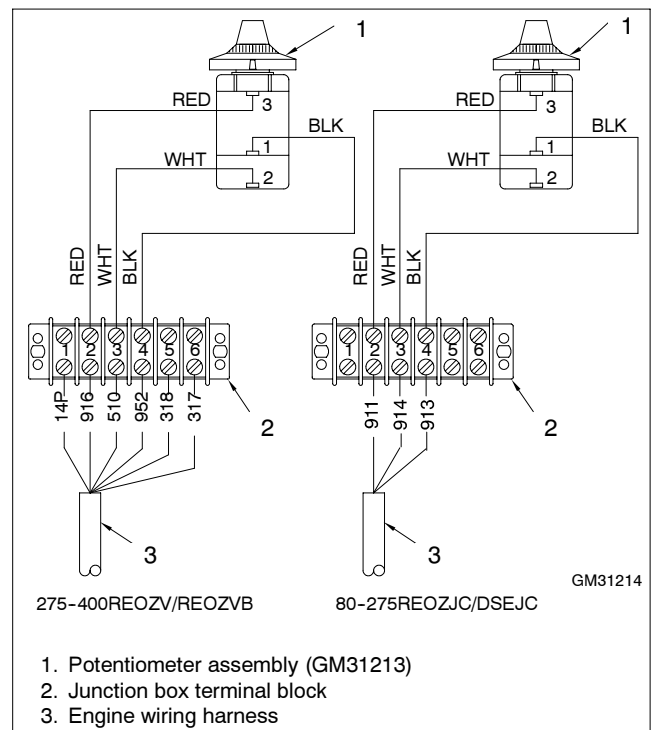

**Figure 6** Remote Speed Potentiometer and Bracket
- 2.6 Attach the bracket (GM30860) to the inside of the junction box using two screws (M933-06014-60) and nuts (M6923-06-80) as shown in Figure 6. Mount the bracket so the decal side of the bracket is facing toward the user.